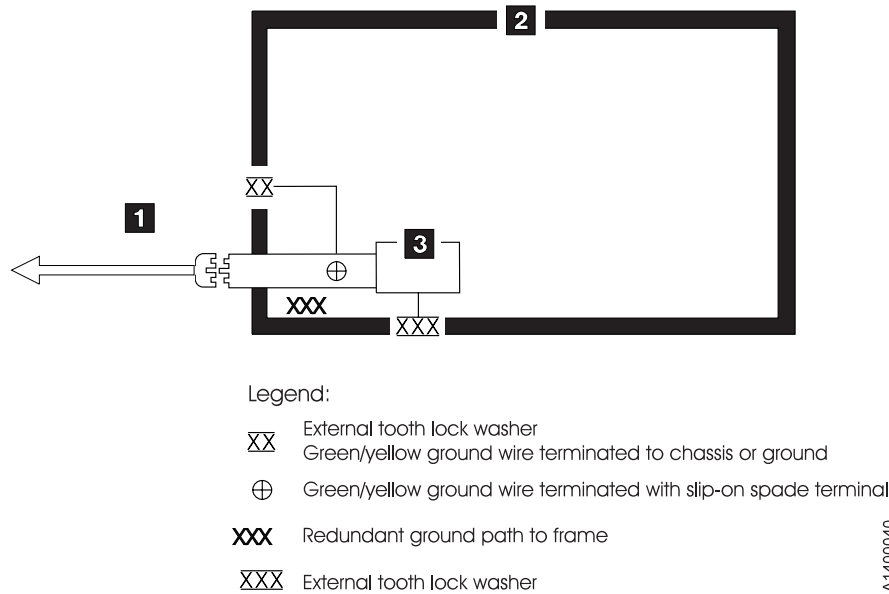

Figure 1. AC Grounding Diagram (50 Hz and 60 Hz)
3. See Figure 1 on page xi which is provided for reference only. Disconnect the power cord from its source.